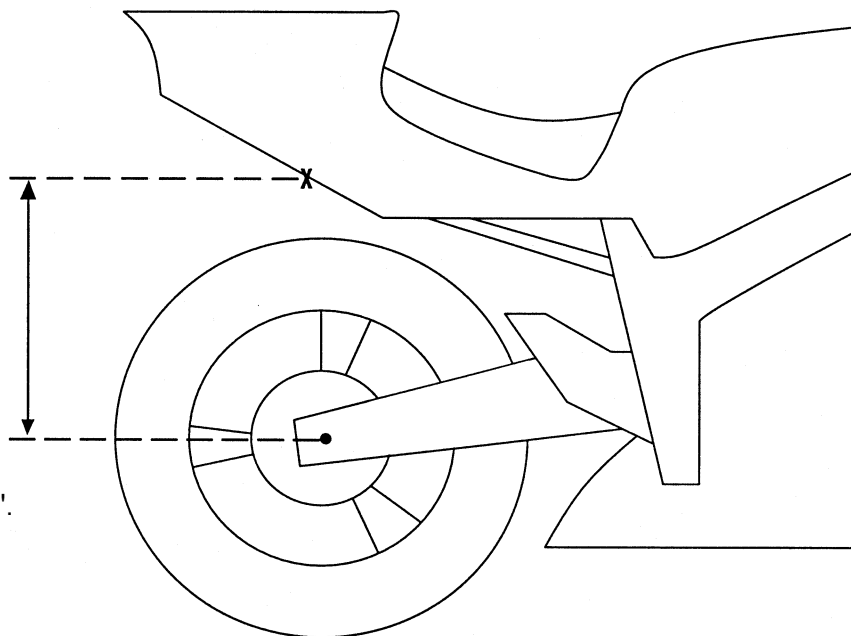

Figure 1.
- 2) Using a tape measure, measure the distance between the axle center line and a convenient location on the rear subframe (Figure 1).